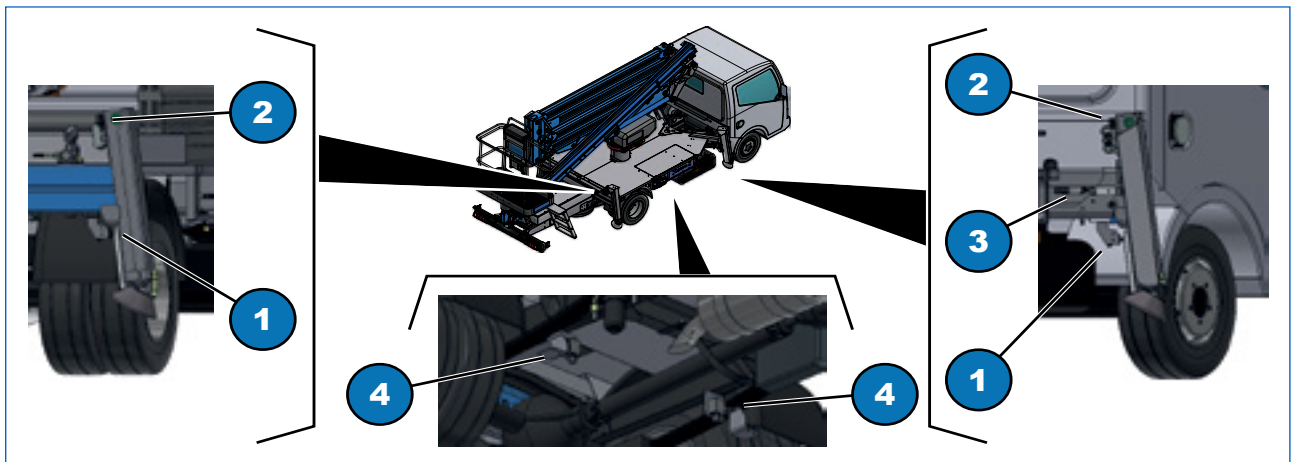

Fig. 5.7
The stabilisation control device consists of two micro switches (Fig. 5.7, 1) and (Fig. 5.7, 2), found on each stabiliser; a micro-switch (Fig. 5.7, 3) found on the side of the front stabiliser beams; and a micro-switch (Fig. 5.7, 4) found on the vehicle's rear springs.
Micro-switch (Fig. 5.7, 1) indicates the complete closure of the plate for moving on the street; micro-switch (Fig. 5.7, 2) controls resting on the ground; micro-switch (Fig. 5.7, 3) controls the complete extension of the stabiliser; and micro-switch (Fig. 5.7, 4) indicates minimum stabilisation.
- When the stabilisers are properly extended, the four LEDs, 1, 2, 3 and 4 next to the stabilisation controls (see Fig. 4.3) light up, indicating that the micro switches are working correctly (Fig. 5.7, 2) and (Fig. 5.7, 4);
- retract all the stabilisers and check that the LED in the cab (see Fig. 4.7 4) is illuminated, indicating that the micro switches are operating correctly (Fig. 5.7, 1).